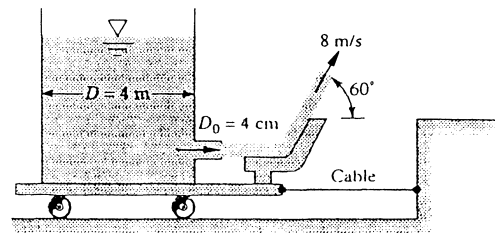

Fig. P3.58
**3.58** The water tank in Fig. P3.58 stands on a frictionless cart and feeds a jet of diameter 4 cm and velocity 8 m/s, which is deflected 60° by a vane. Compute the tension in the supporting cable.